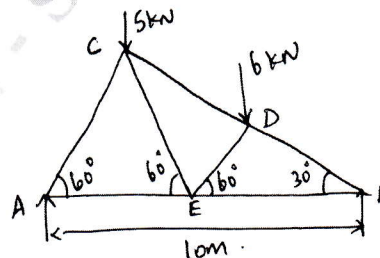

Fig.Q8(b)
b. A truss of span 10 m is loaded as shown in the Fig.Q8(b). Find the forces in all the members.